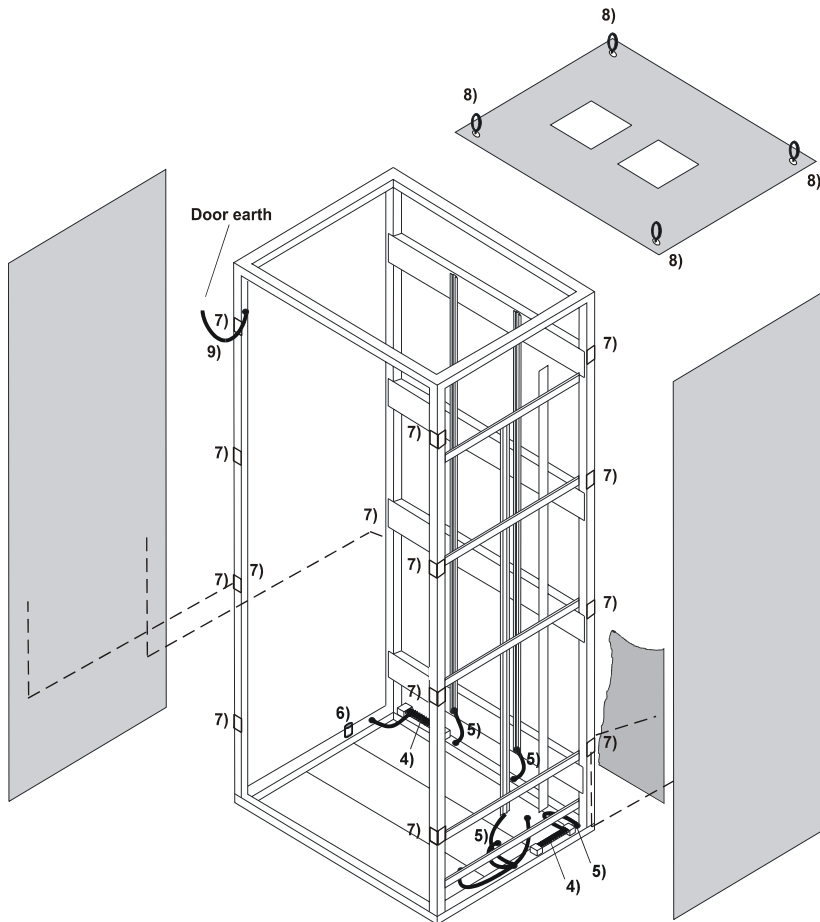

Figure 8: Earthing connections in cabinet
The top plate is screwed to the cabinet framework via four lifting eyes. Side panels and rear panel are conductively connected via earthing clamps (7) (see Figure 8) to the cabinet framework as well as the bottom plate via screws
Earthing clamps (position 7 in figure 8)
Central earthing bolt (position 6 in figure 8)
Lifting eyes (position 8 in figure 8)